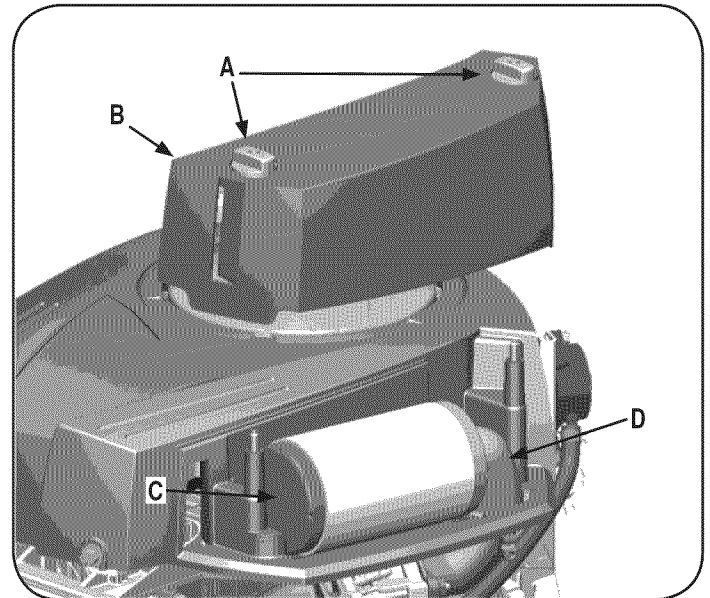

Figure 12
1. Remove the fasteners (A) and the air filter cover (B). See Figure 12.
2. To remove the filter (C), lift the end of the filter and then pull the filter off the intake (D).